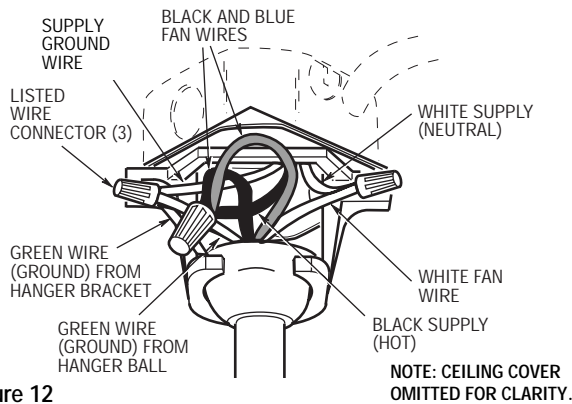

Figure 12
1. Connect the green grounding lead from the hanger ball and the green grounding lead from the hanger bracket to the green grounding conductor of supply (this may be a bare wire or wire with green colored insulation). Securely connect wires with wire connectors supplied. (Figure 12.)
2. Securely connect the fan motor white wire to the supply white (neutral) wire using wire connector supplied (Figure 12). Securely connect the fan motor black wire and blue wire to the supply black (hot) wire using wire connector supplied (Figure 12). After connections have been made, turn leads upward and carefully push leads into the outlet box, with the white and green leads on one side of the outlet box and the black and blue leads on the other side of the outlet box.